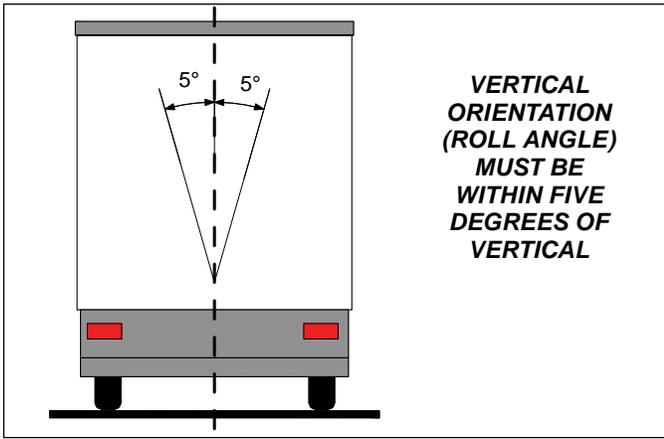

FIGURE 16 - INSTALLATION ON TRAILER (VERTICAL)
1. The TABS-6 Advanced module shall be installed with the following considerations (see Figures 16 through 18):